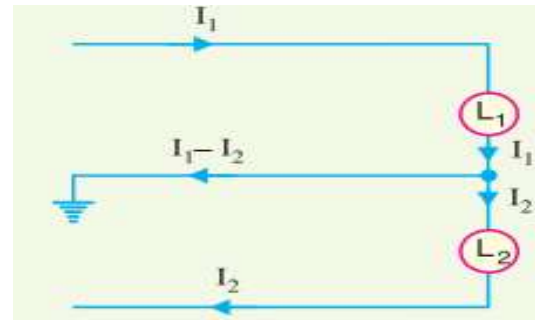

Fig.2.
2. If the load on the positive outer ( $I_1$ ) is greater than on the negative outer ( $I_2$ ), then out of balance current  $I_1 - I_2$  will flow in the neutral wire from load end to supply end as shown in Fig.2.